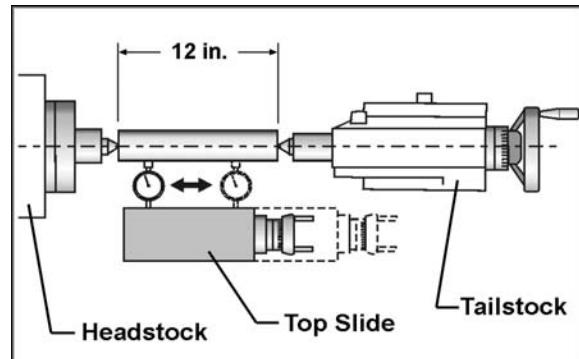

Figure 44 – Tailstock/Headstock alignment
1. Fit a 12" ground, center-drilled, steel bar between centers of the headstock and tailstock (Figure 44).